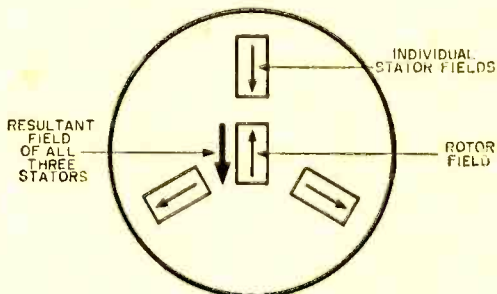

**Fig. 4.** Forces and magnetic fields may be summed up to obtain a "resultant."
**Combined Effects.** Magnetic fields are capable of exerting forces along the field. Like any other forces, those due to magnetic fields produce a certain *net effect* or resultant force when they act in combination. Think of two boys pulling a sled by means of two ropes that make an angle with each other. The net effect or resultant of this double pull can be represented by a single force in the direction shown in Fig. 4(A). Similarly, three magnetic fields acting at an angle may also be summed up by replacing them with a single resultant magnetic field, as in Fig. 4(B).